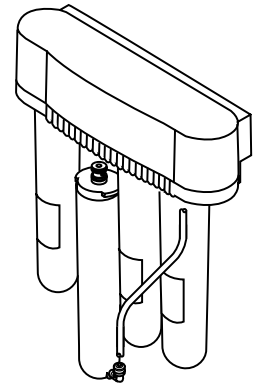

Fig. 8
- 1) Close the cold water supply shut off valve. Lift up on the faucet handle to drain the tank. Wait five (5) minutes for the filtration assembly to completely depressurize.
- 2) Make sure that there is some slack in the red SFC tubing connected to the fitting at the bottom of the RO membrane cartridge. Twist the cartridge 1/4 turn clockwise so that the tubing connection is accessible. (See Fig. 8)